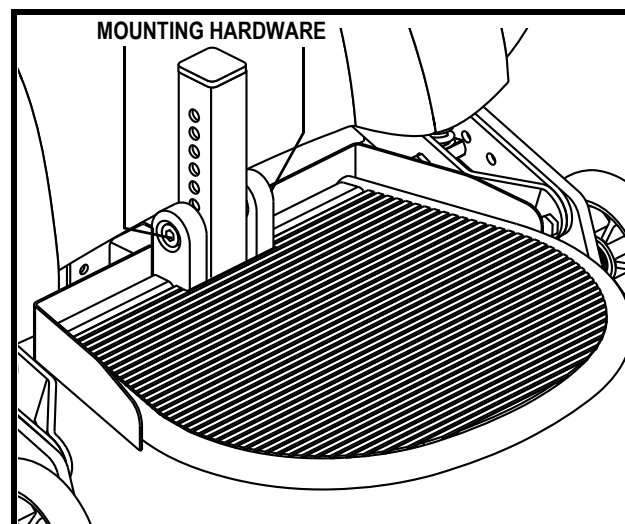

Figure 18. Foot Platform Height
1. Use a hex key to remove the mounting hardware from the foot platform. See figure 18.